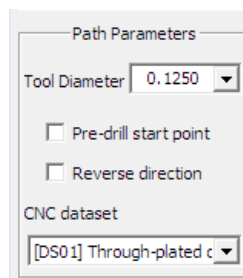

Figure 6
- b) In the same dialogue bar, set the parameters for the slot to be added, Figure 6.